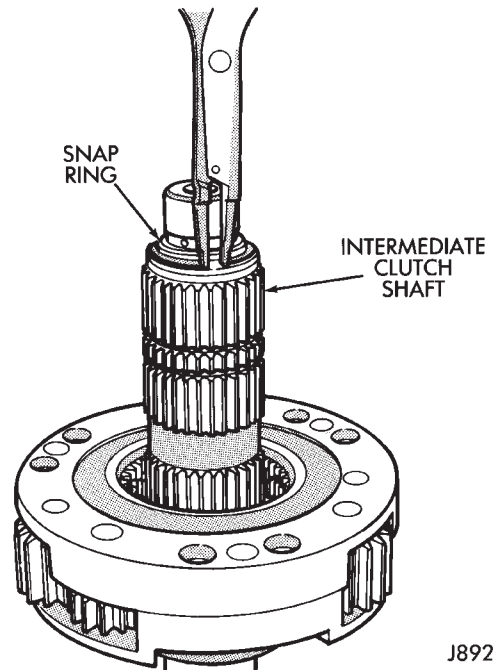

Fig. 24 Removing Intermediate Clutch Shaft Snap Ring
(31) Remove intermediate clutch shaft snap ring (Fig. 24).